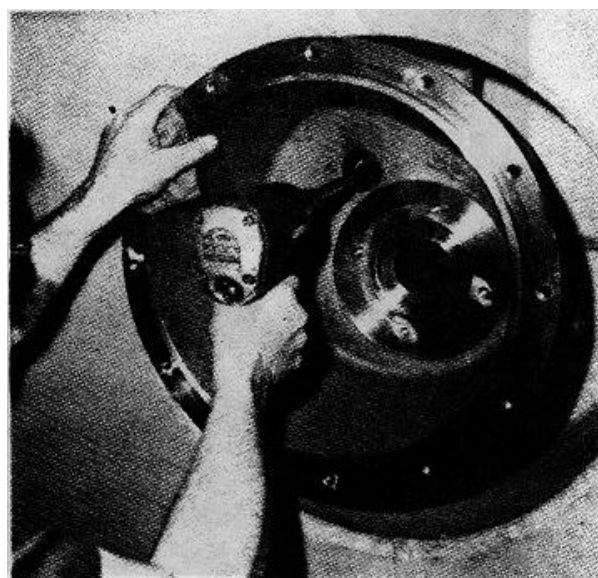

FIGURE 7-74.
b. Remove the motor carrier-to-drum mounting cap screws by turning the carrier and aligning the hole in carrier with cap screws (see figure 7-74).